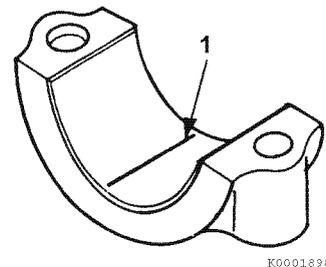

Figure 6-58
- Place a piece of PLASTIGAGE® (1, **Figure 6-58**) along the full width of the bearing insert.